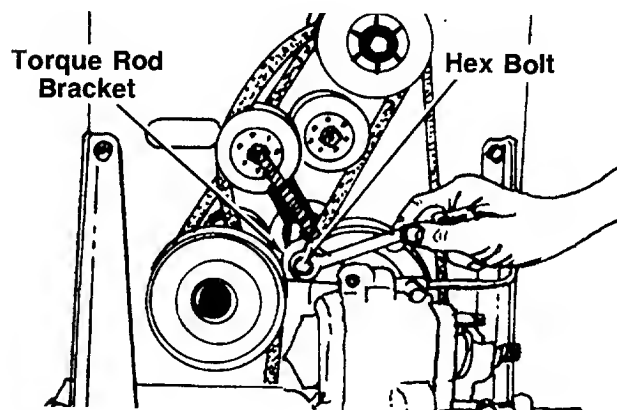

FIGURE 32.
7. Remove the hex bolt which holds the torque rod bracket to the torque rod, and remove bracket. See figure 32.